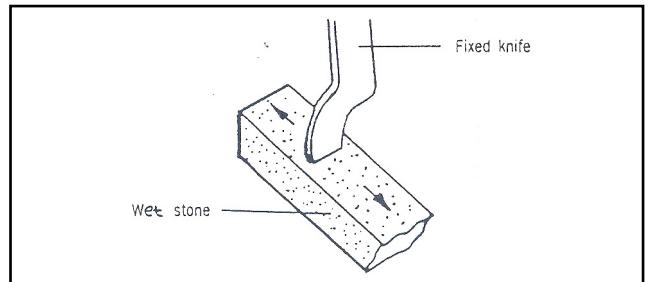

Figure 7.20
- B. If the point of the blade is dull sharpen using an oil stone. Refer to Fig 7.20.